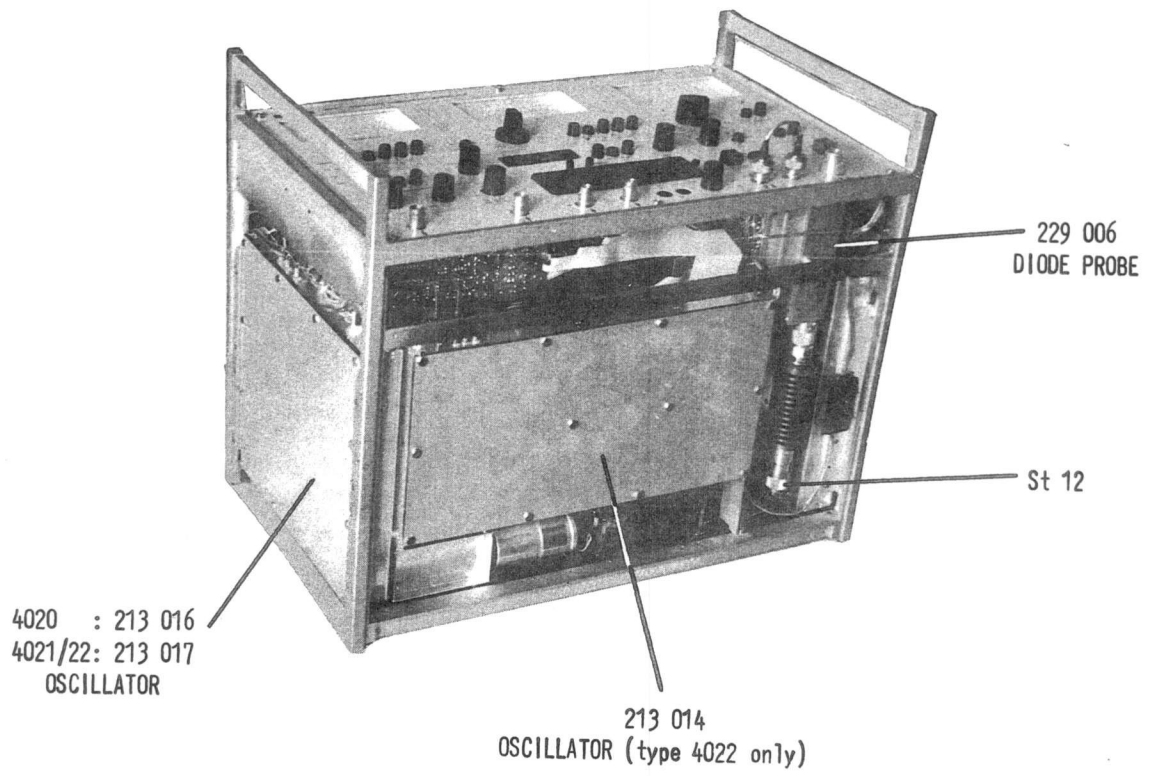

FIG. 1
1. Immediate access is provided to the following stages subsequent to screwing off the covers without any further disassembly (figs. 1 and 2, page 4/8):
6. Diode Probe 229 006 (fig. 1)